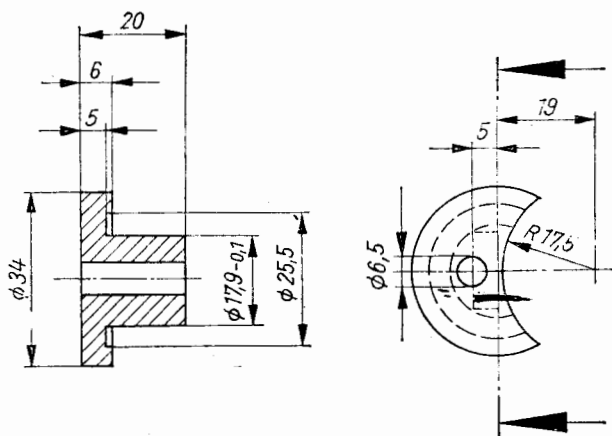

Fig. 88. Sketch for thrust ring
2. Axially compress the engine mounting plates to the length of the frame bearing tube by means of the pressure rings. (See Fig. 88 and 89.)